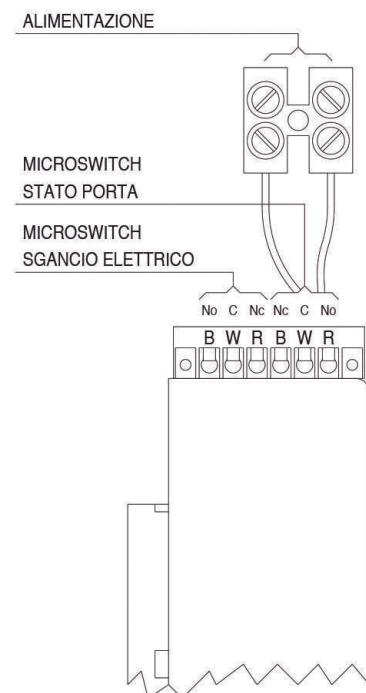

Fig.3
- 3) VERSIONE CON 2 MICROSWITCH (Fig.3)